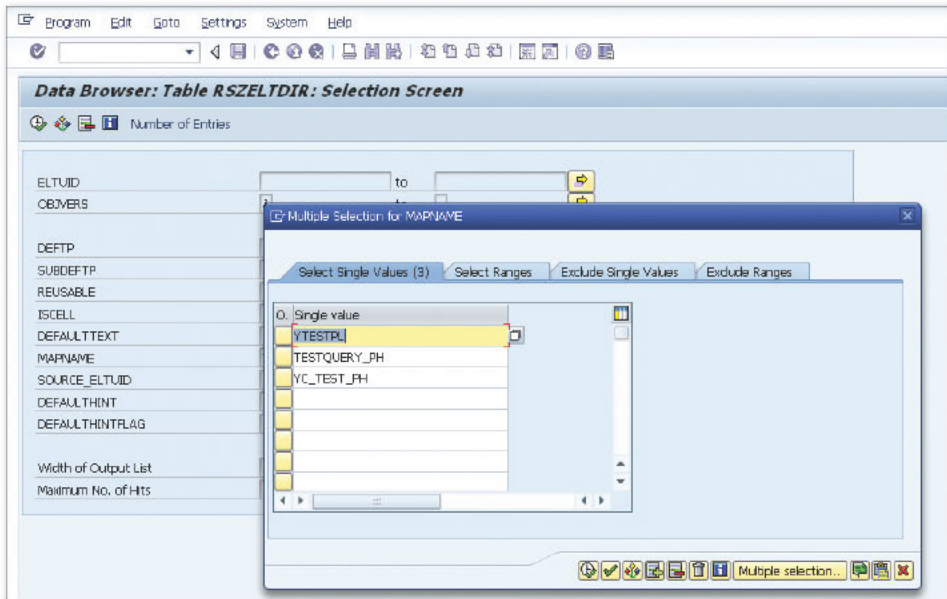

Figure 1 Entering Query Names for Selection
2. In the selection screen for the table contents, you can use the MAPNAME field to select specific queries. So if you have a specific list of queries that you need to expose externally, you can enter the query names in this field as shown in Figure 1. Table RSZELTDIR will give the technical names of the BEx queries, which is required for making the setting change.